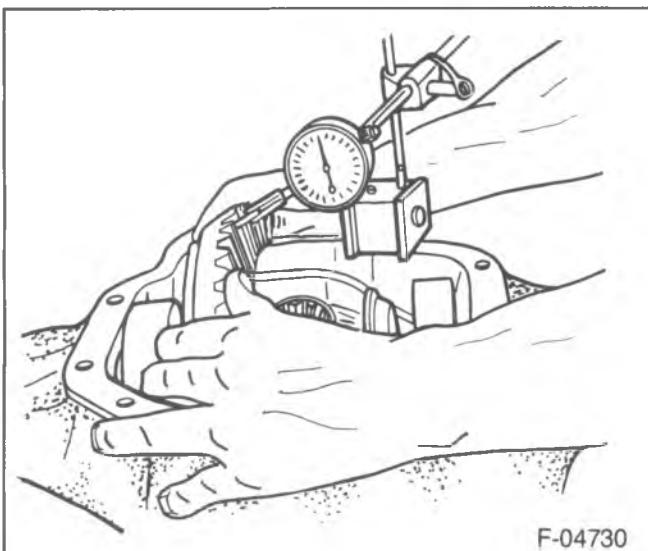

Figure 122—Measuring Backlash
1. Mount a dial indicator with a magnetic base to the axle housing as shown in figure 122.